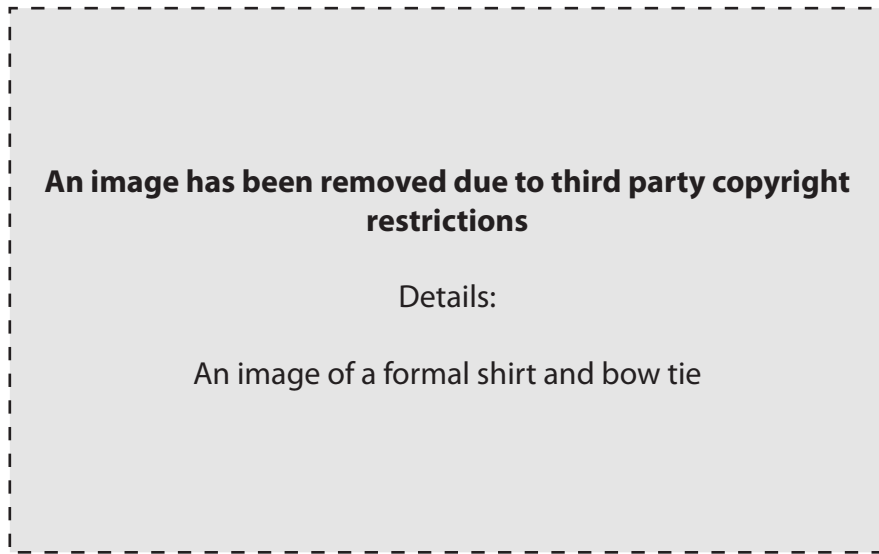

Fig. 2
- (b) Fig. 2 shows a formal shirt.